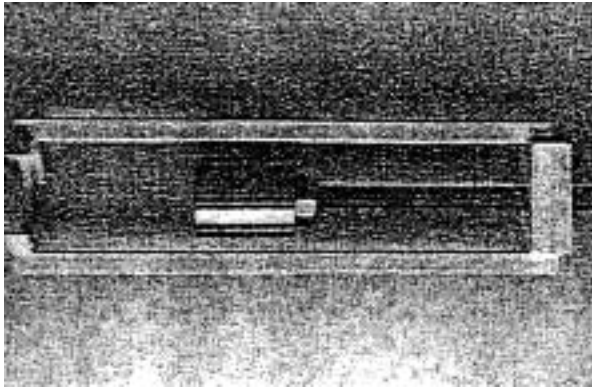

Figure 7: The headset tool set up to push a bearing into the headtube.
- B) 2. With the threaded rod still in the cage, thread the drilled nut to the higher hold position and secure the hitch pin. Thread the bearing pusher (part F) onto the rod and snug it against the lock nut (see Fig. 7).